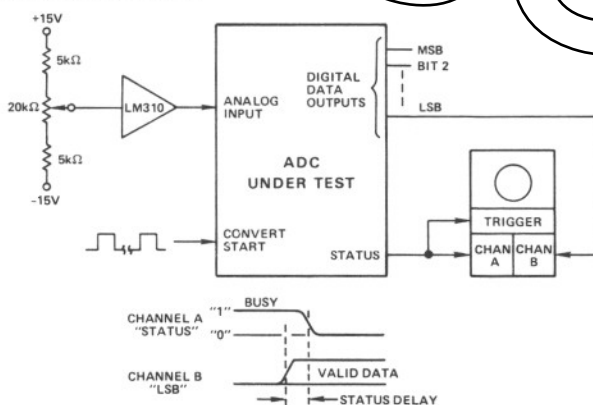

Figure 4. ADC Status Valid Test
1. Connect the ADC under test as shown in Figure 4.